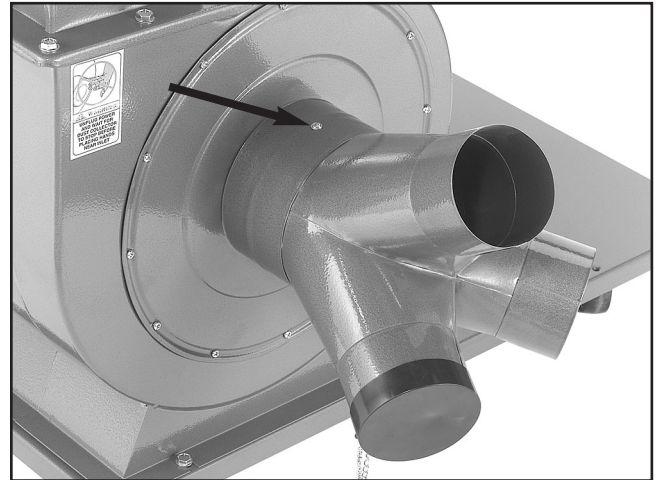

Figure 20. Installed inlet.
2. Secure the inlet in place with the Phillips head tap screw, (**Figure 20**).